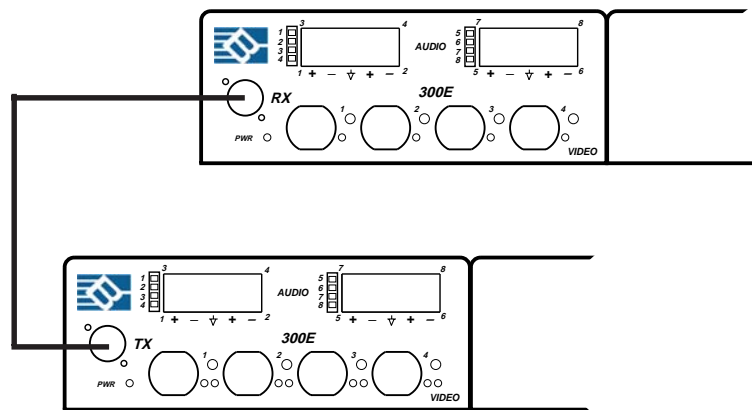

Figure 2-2
3. Cross-connect the fibers from one unit to the other, connecting the near end 300E unit's optical TX port to the far end 300E unit's optical RX port, as illustrated in Figure 2-2. Observe the type of connector you have and connect the optical connector by following the instructions and guidelines from the legend provided in Table 1.